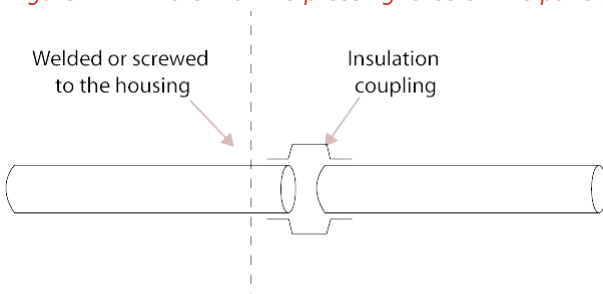

Figure 24.2 : Pipes of conductive material need to be provided with insulating couplings
- **LEVEL III H** Pipes for fluids, air, heating (*fig. 24.2*) **64 / 69**